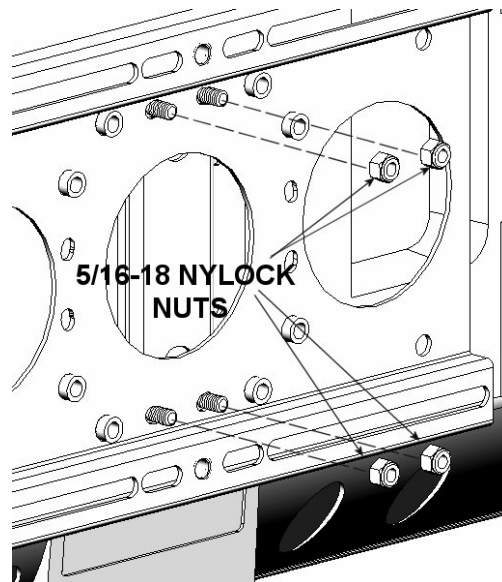

Figure 8
1. Install VESA flat panel interface adapter to back plate using four 5/16-18 Nylock nuts (see Figure 8).